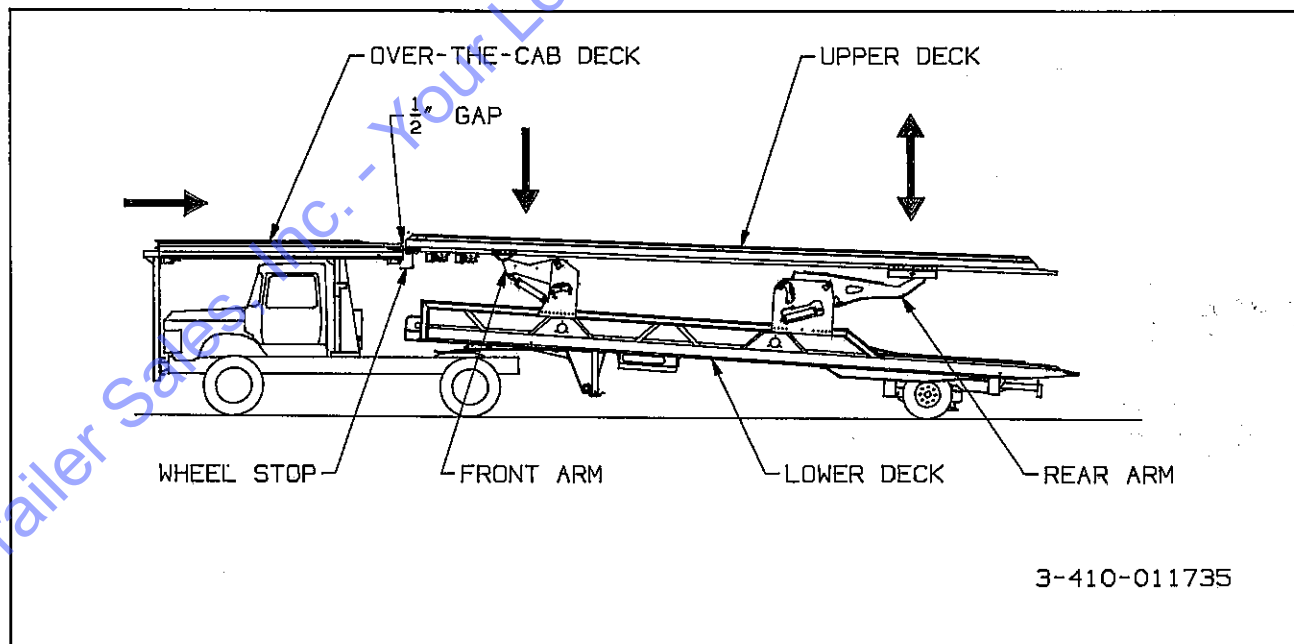

Figure 3-7 Lining Up the Over-the-Cab Deck
- a. Unlock and lower the front arm as far down as it will go. (See Figure 3-7.)